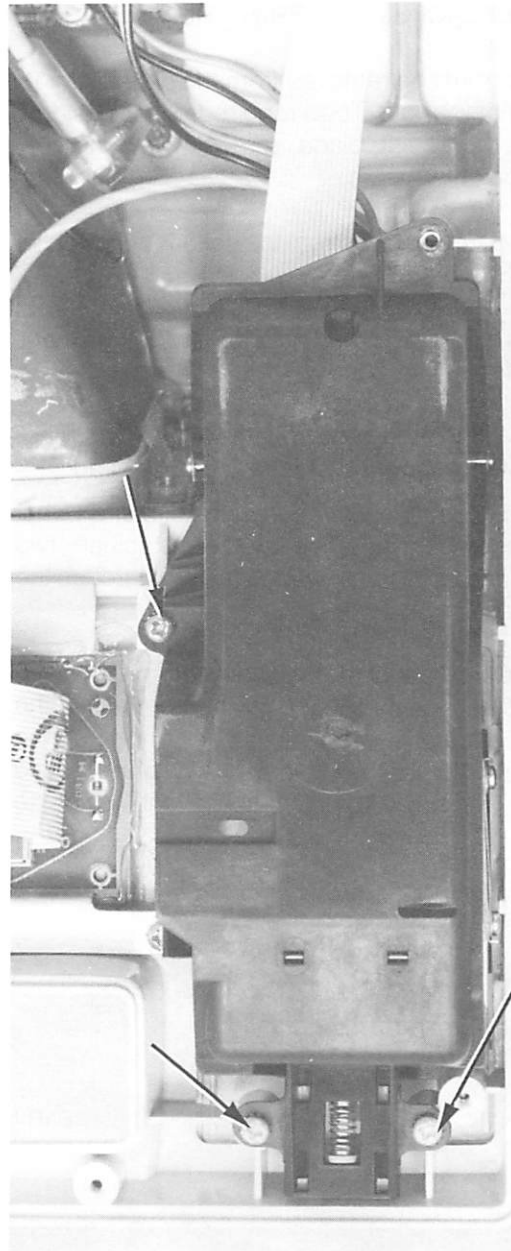

Figure 4-14.
5. Remove the three screws indicated in Figure 4-14. Lift the recorder assembly out of the case.